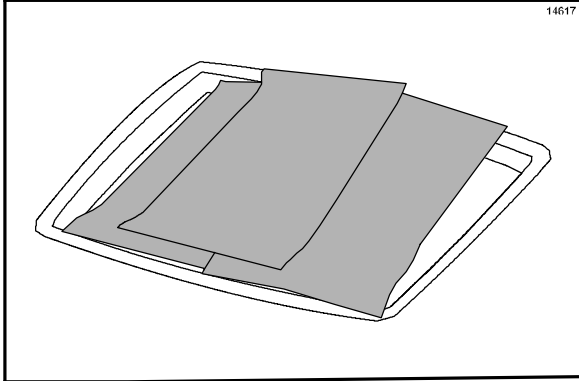

Figure 46
13. Place all release sheets flat on the release sheet storage tray. DO NOT fold, crease, or place them on sharp objects. DO NOT clean them in the 3-compartment sink. (See Figure 46.)